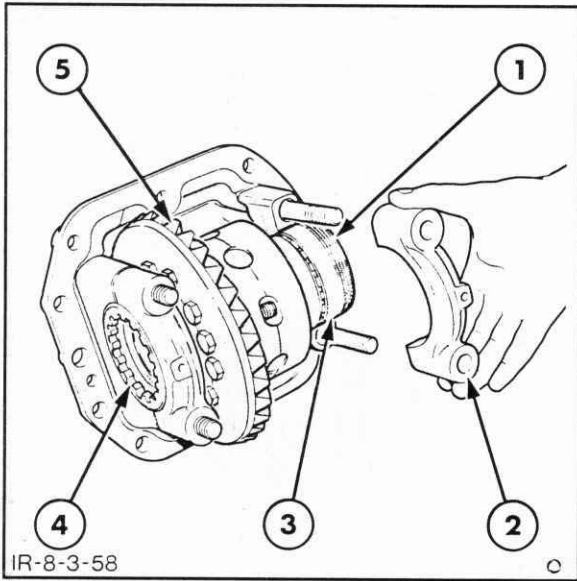

Figure 7-121
7. Remove the bearing cap retaining nuts and caps, Figure 7-121.